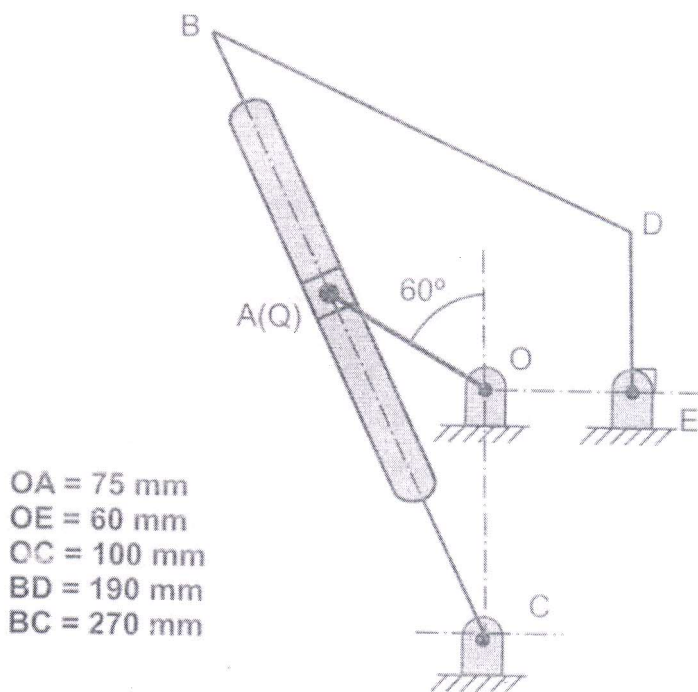

Fig.3 (Q 5)
- Q5) **Fig.3** shows a mechanism in which crank OA is rotating clockwise at 20 rad/sec. Determine the angular velocity and angular acceleration of link BC & DE at the instant shown. [18]